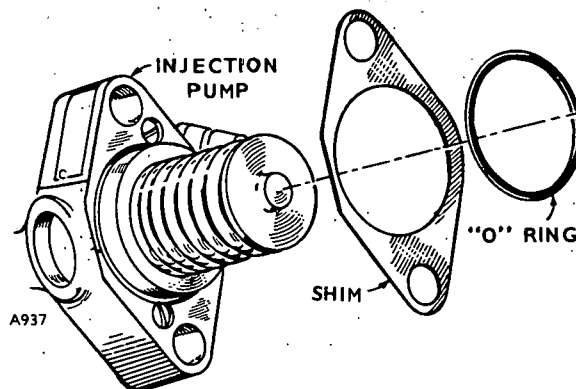

FIG. 6-13
1. Slide the shim or shims (Using proper thickness of shims for correct timing) over the pilot until they are flat on the pump flange (Fig. 6-13).